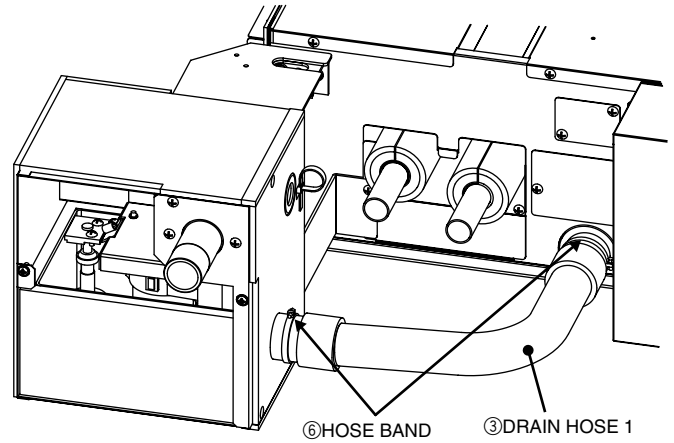

Fig. 5
- (1) Connect each end of ③DRAIN HOSE 1 to the drain port on the unit and on the drain pump. (Fig. 5)
- (2) Secure the hose with ⑥HOSE BANDS at both ends of the hose. (Fig. 5)